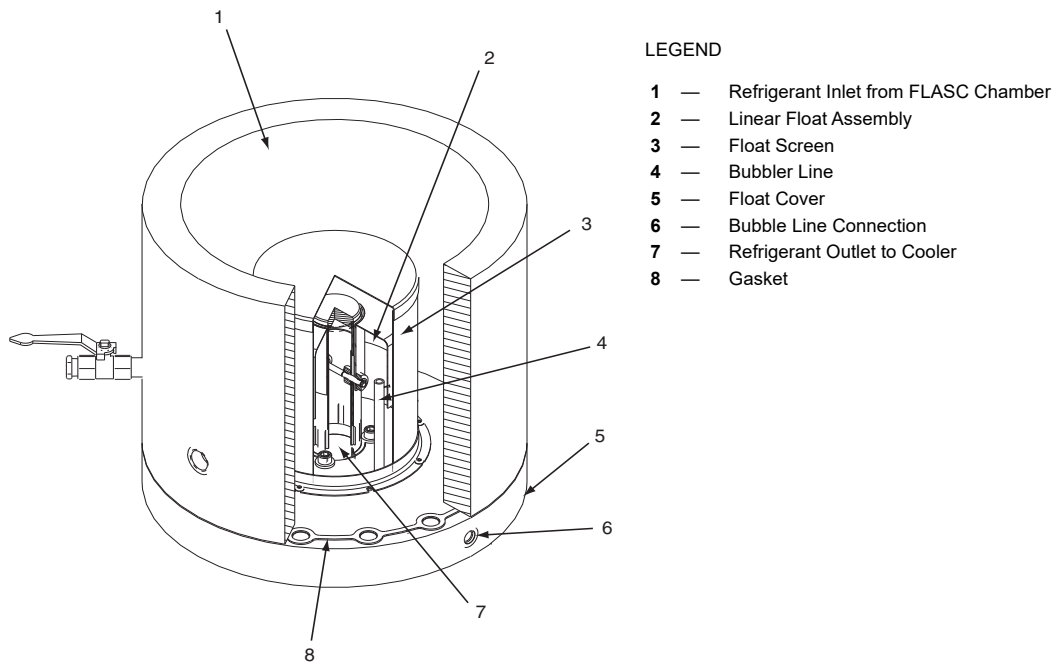

Fig. 56 — 23XRV Float Valve Design (Frame 3-5 Heat Exchangers Only)
Perform this inspection when the condenser is opened for service. See Fig. 56.
4. Apply thread locking adhesive (P/N 24221 [10 ml] or 24231 [50 ml]) the 3/8 in. 16 bolts that hold the float valve in place. See Fig. 56 for a view of the float valve design. Inspect the orientation of the float slide pin. It must be pointed toward the bubbler tube for proper operation.